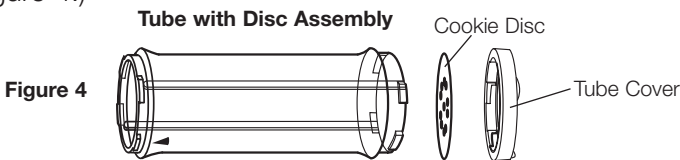

Figure 4
4. Select a Disc and place it inside the Tube Cover. Then place the Tube into the Tube Cover, turning clockwise until locked. (See Figure 4.)